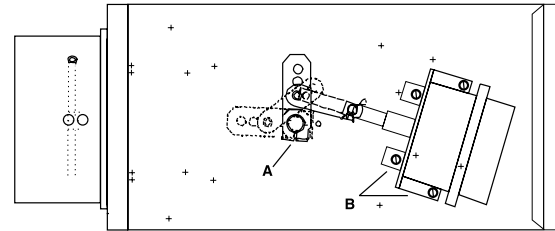
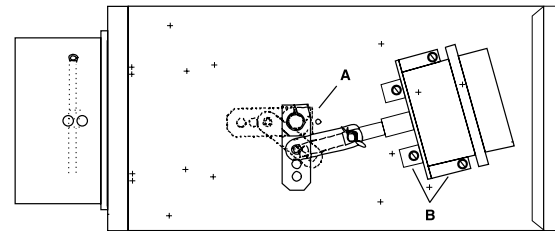

Figure 1
Figure 2
The terminal's side panel is factory marked to identify the mounting position for Johnson, Kreuter, Landis & Staefa and Honeywell pneumatic actuators for both Normally Open or Normally Closed operation (see page 4, Figures 1 and 2).
Figure 1 illustrates the standard actuator and linkage orientation for normally open units. Figure 2 illustrates the orientation of a normally closed unit.
4. Insure the actuator linkage is in the proper orientation as per Figure 1 or Figure 2. Install screws (B) securing actuator mounting bracket to the terminal.
5. Rotate the damper shaft until the damper is in the fail-safe position (full open or full closed) and tighten bolt on the crank arm (A).
Note: These illustrations are for a right hand unit only. The opposite orientation is required for left hand units (Figure 1 normally open, Figure 2 normally closed).